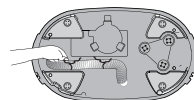

Fig. 2
- Reroute the Drain Hose to the left side. Hook each Tie Wire between two holes on the base. Wrap the Tie Wires around the hose once, then twist at least 3 times (Fig. 2).